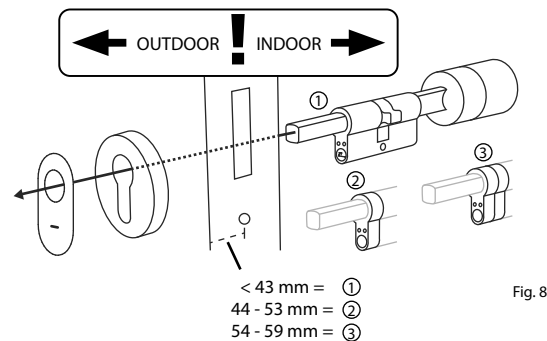

Fig. 8
- ⑤ From inside the door, push the cylinder into the mortise lock. Push the emergency lock cover onto the outer side of the locking shaft (Fig. 8).